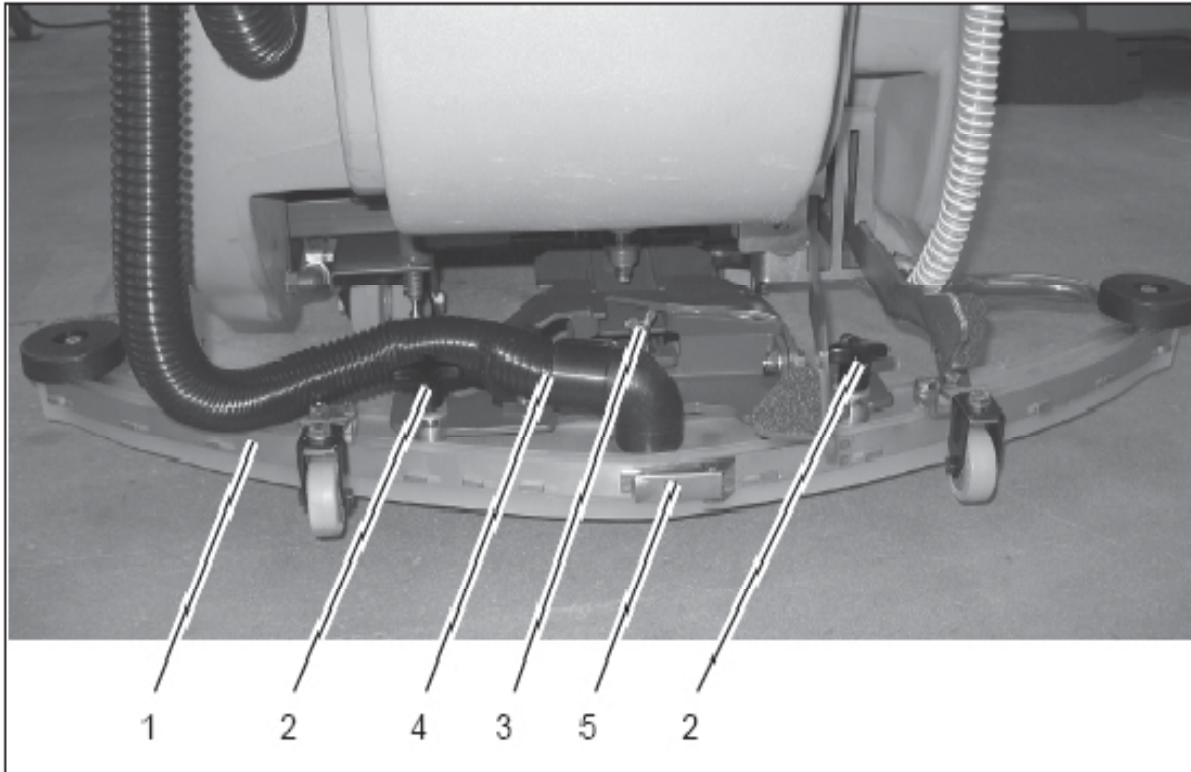

Fig.12
Clean squeegee (Fig. 12/1) at daily intervals or as required.
Lift squeegee, pull off suction hose (Fig. 12/4) loosen both star-shaped knobs (Fig. 12/2) and remove squeegee assembly.
Check inner and outer blades of Squeegee assembly (Fig. 12/1) for wear at weekly intervals. Fourfold use of the blades is possible by turning.
2. Pull off suction hose (Fig. 12/4) loosen both star-shaped knobs (Fig. 12/2) and remove squeegee assembly
3. Open toggle-type fastener (Fig. 12/5) and remove outer squeegee blade. Turn blade or install new one if required.
2. Loosen the adjustment screw (Fig.12/3) and proceed to parallel adjustment of squeegee blades and floor. Turn adjustment screw clockwise: clearance between squeegee blade and floor in the central area widens. Turn adjustment screw counter-clockwise: clearance between squeegee blade and floor in the central area narrows.